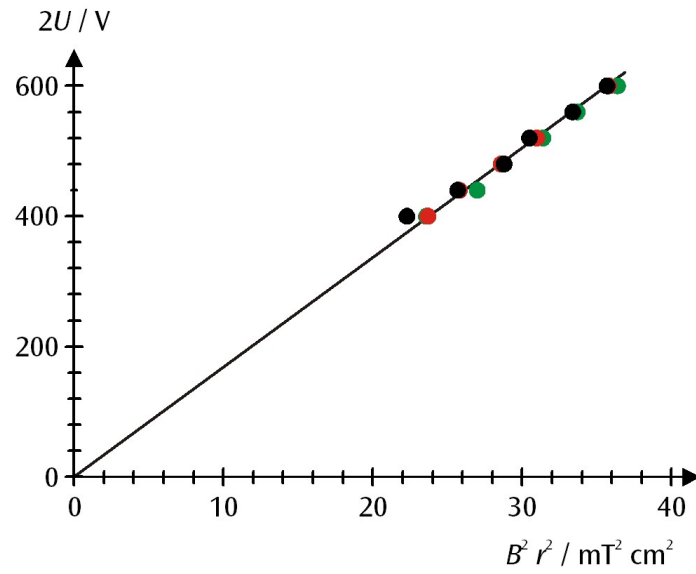

Fig. 3 Graph of $r^2 B^2$ against $2U$ for values as measured (black: $r = 5 \text{ cm}$, red: $r = 4 \text{ cm}$, green: $r = 3 \text{ cm}$)
- For further evaluation, plot the measured values in a graph of $r^2 B^2$ against $2U$ (see Fig. 3).